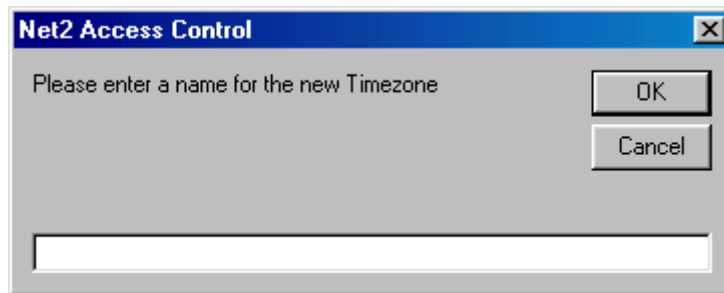

Figure 4.5
2. Enter the name of the new timezone, see figure 4.5.